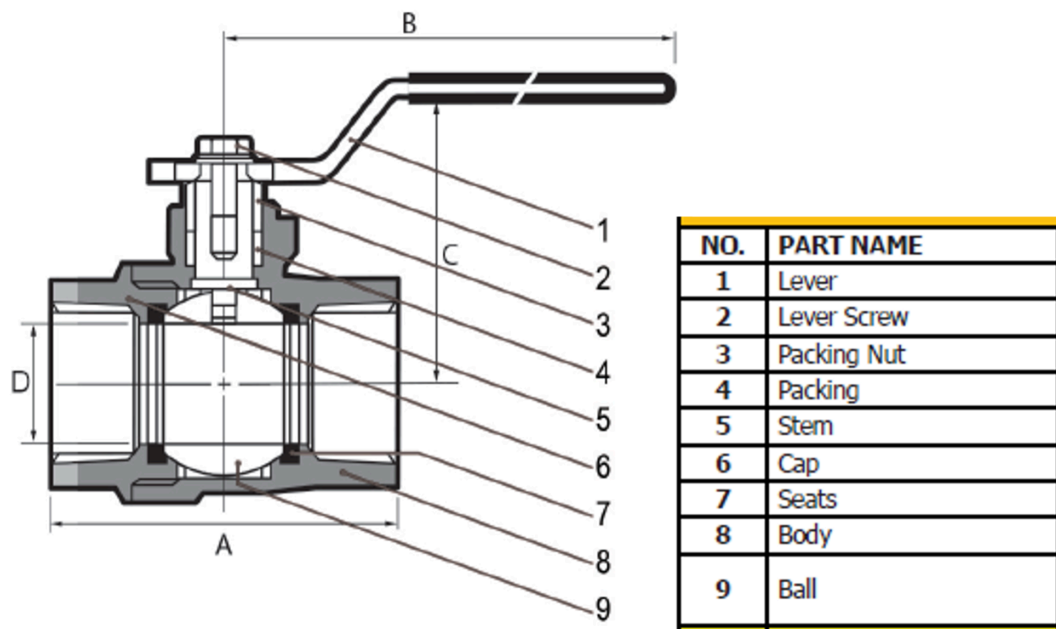

Figure 2. Cross section of lever operated ball valve [\[Image Description\]](#)
The lever operated non-lubricated ball valve is the most common valve used for appliance shut-off. For residential and commercial applications, they are usually constructed of a brass (BRS) body with a chrome plated brass ball. Teflon seats and packing are most common but smaller sizes may use O-rings (Figure 2).
- Figure 2. “Cross section of lever operated ball valve” – The source for this image is unknown. It is being used for non-commercial, educational purposes. To receive credit for this image, please reach out to the publisher.
**Figure 2. “Cross section of lever operated ball valve” image description:** A labelled diagram of a cross section of a lever-operated ball valve. It labels parts from 1 to 9 and distances from A to D.
- D. Height of valve opening [\[Return to Figure 2\]](#)